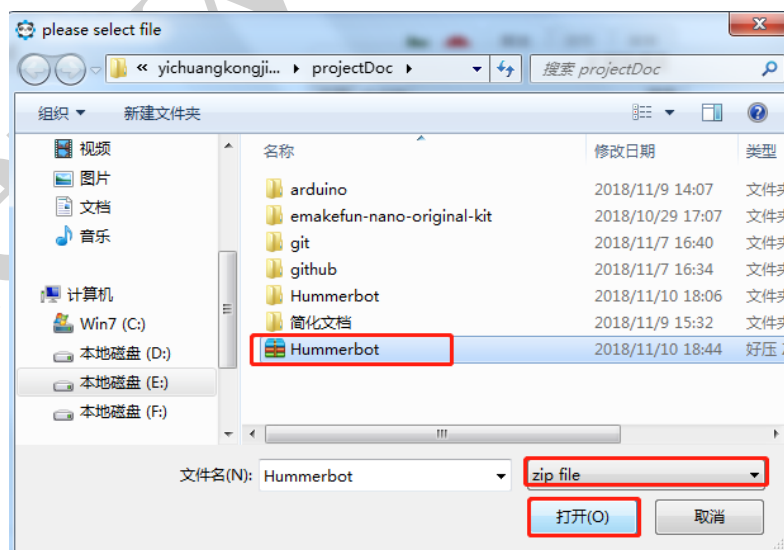

Figure 2-3
- 4) Select “Zip.file” for the file type, then select “Hummerbot.zip” and click “Open”, as shown in Figure 2-3.